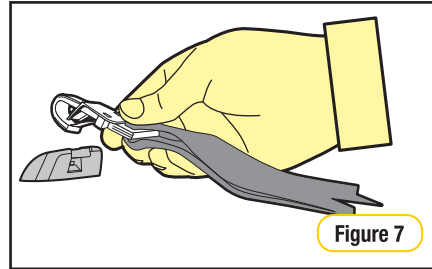

Figure 7
**Step 5:** Hook the attachment clip to the anchor fitting. Ensure there are no twists in the top tether strap (Refer to Figure 7)
**PINCH TEST**, this is achieved by pinching the harness webbing at the shoulders (refer Figure 7)